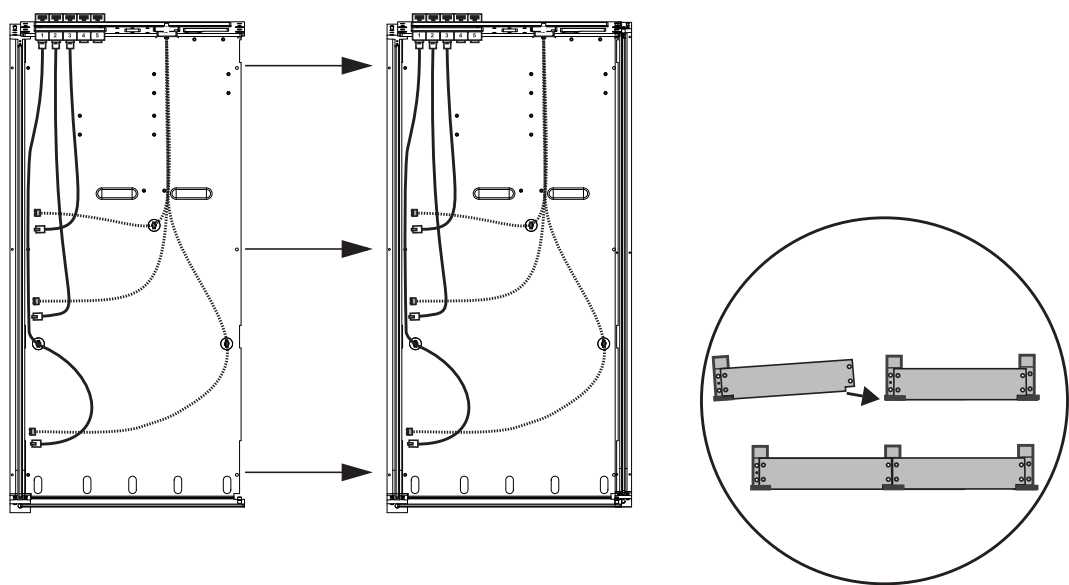

Figure 17. Attaching the first two chassis (top view, at left, and front view, at right)
- 6 Move the next chassis into position so that the right edge of its Chassis Bottom Plate sits *on top of* the left edge of the first chassis as shown in Figure 17.